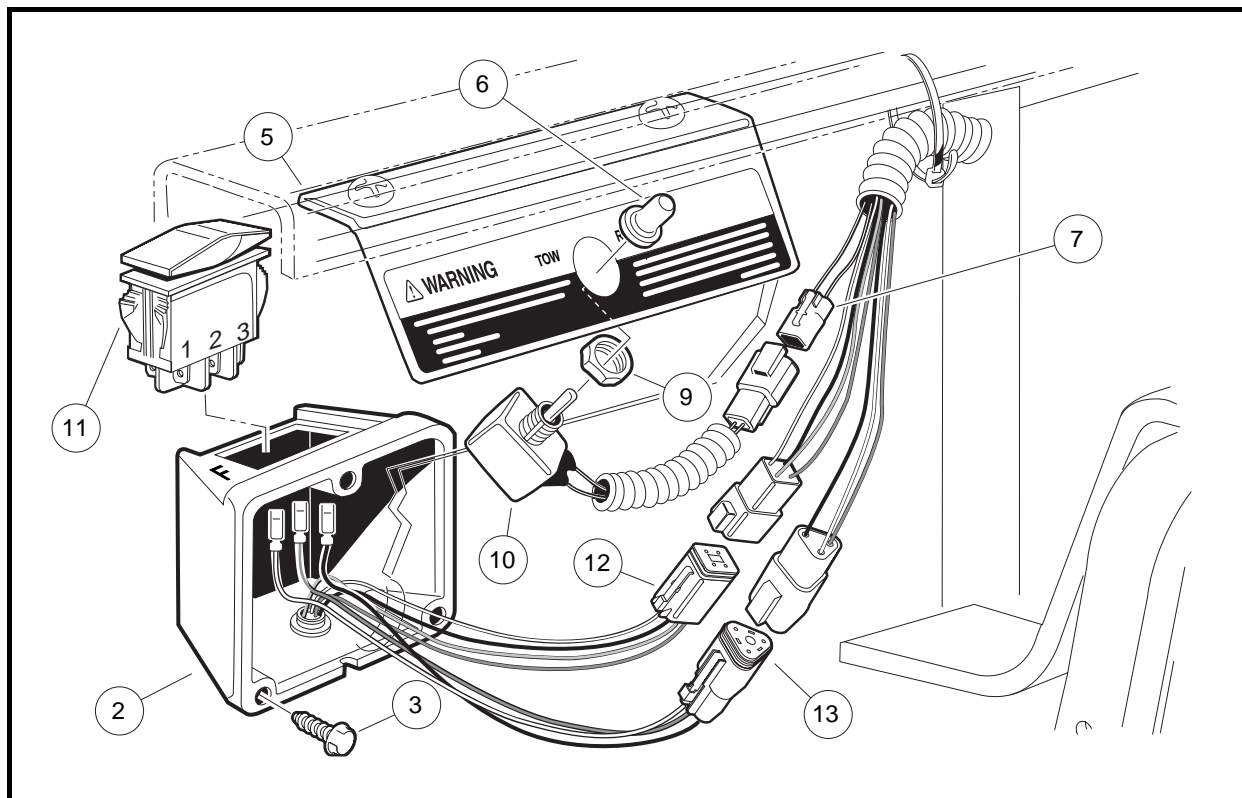

Figure 13-3 Tow/Run Switch and Forward/Reverse Rocker Switch
2. Remove three screws (3) that hold Forward/Reverse rocker switch housing (2) to body (**Figure 13-3, Page 13-4**).
1. Press the locking tabs (11) on each end of the rocker switch and push switch into case (**Figure 13-3, Page 13-4**).
3. Install three screws (3) that hold Forward/Reverse rocker switch housing (2) to body. Tighten to 20 in-lb (2.3 N·m) (**Figure 13-3, Page 13-4**).
2. Remove Tow/Run switch boot/hex nut (6) (**Figure 13-3, Page 13-4**).
3. Remove Tow/Run switch (10) and nut (9) from bracket (5).
4. Disconnect the two-pin connector (7) and remove switch.
1. Installation is reverse of removal. Make sure groove on switch is aligned with tang on bracket. Tighten Tow/Run switch boot/hex nut (6) to 16 in-lb (1.8 N-m) (**Figure 13-3, Page 13-4**).